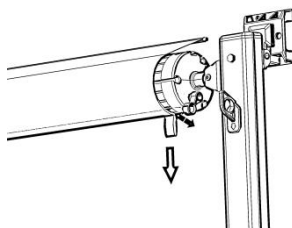

Figure E2
2. Unable to pull the ratchet lever: When pulling the ratchet lever, gently pull the roll tube strap while also moving the ratchet lever. (Figure E2)